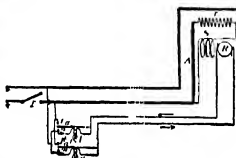
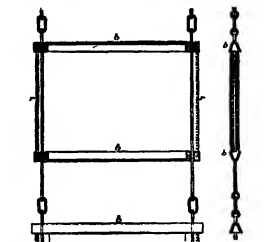
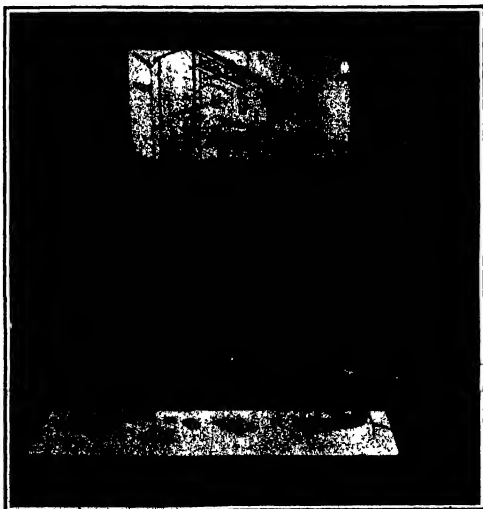

Fig. 2.—Electric wiring for automatic projector.
Fig. 3.—Front and side views of chains carrying slide holders.
Fig. 4.—A lecture illustrated by the automatic projector, controlled by the lecturer himself.
Hitherto it has been necessary for a lecturer using lantern illustrations to employ an assistant to operate the lantern and insert each slide at the proper moment. M. Mouille has invented an automatic lantern (Fig. 1) which dispenses with the services of the assistant. The ingenious mechanism which inserts and removes the slides can be adapted to any projecting lantern and enables the lecturer, by pressing an electric button on the platform, to show any picture at will. The invention will be especially serviceable to teachers, as is shown by Fig. 4. The picture can be thrown on the white wall of the class room, and if a powerful source of light is employed it will not be necessary to darken the room to an extent sufficient to prevent the taking of notes or the use of the blackboard.
the tension of the spring *r* (Fig. 2). The drum is driven by a small electric motor, by means of a thin gear wheel, and, as it rotates, the slides are brought successively opposite the projecting lens. In this operation the flexible conveyor carrying the slides takes up from a box behind the drum and delivered to a receiving box beneath the lantern.
The motor is shunt wound, so that it can be reversed by reversing the current in the armature coils. In this way a slide which has already passed the lens can be brought back and projected again. If desired, the electrical connections by means of which the apparatus is controlled are shown diagrammatically in Fig. 2. Beneath the lecture table is a switch *L*, the closure of which sends a current through the electric arc *A* of the projecting lantern, and also through the field coils *S* of the motor, which are connected in parallel with the circuit containing the arc and its rheostat. On the table are two double contact keys *a* and *a'*. The upper contacts of these keys, *1* and *1'*, are connected with one wire of the general circuit, the lower contacts, *2* and *2'*, are connected with the other wire, and the fixed ends of the keys are connected, respectively, with the two brushes of the commutator attached to the rotor or armature *R* of the electric motor. Hence, when neither key is depressed, both brushes are in connection with the same main wire, and no current flows
In Fig. 1, which shows a face view of the machine, the main shaft is shown at 4 and mounted upon it is the main rubber head, provided with the rollers 5 which form the rabbet and molding immediately in front of the cutter head is a table 6 on which the work is supported and a pair of guides 7 for holding the work in position. The auxiliary cutter is mounted on a shaft 8. It consists of a pair of rollers 9 and 10 provided with a pair of blades 11. Fig. 2 shows a side view of the auxiliary cutter moved to its operative position so that it clears the work (4) supported on the table 6. The shaft of the auxiliary cutter is provided with a yoke and roller 12 by which it may be moved axially so as to bring the cutter into engagement with the
Pictured in the accompanying engraving is an improved coupling of the type adapted for connecting the shafting ends of two reversible shafts. Briefly the device consists of a key and a sleeve which serves to hold the key in place while a second locking key serves to retain the sleeve in position over the two shafts. As shown most clearly in the actual view Fig. 3 and in Fig. 4, a keyway is cut in each shaft, and a pit or recess is formed at the end of the keyway. The shafts are turned so that the two key ways are in alignment and then a key of the form shown in Fig. 4, and indicated at 4, Fig. 2, is fitted into the keyway. The key is provided with lugs at the end adapted to fit into the pits of the keyways. Before bringing the shafts together, a sleeve 5 is fitted over one of them. This sleeve, as shown in the cross-sectional view, Fig. 1, is formed with a keyway adapted to fit over the key 4 when it is moved over the abutting ends of the shafts. To hold the sleeve in position, the key 5 is inserted into an exterior keyway in the sleeve 5 and is provided with a pair of lugs 6 which pass through the sleeve and into the two shafts. A screw 7 is used to hold the key 5 to the sleeve 5. In this manner the two shafts are rigidly connected. Owing to the large
An inventor has recently struck upon the simple idea of using coins to weigh letters, so that the value of the coin will represent the value of the stamp that must be applied to the letter. A simple beam scale is used provided at one end with a clip for holding the letter and at the other end with a clip for holding the coins. If the scale is to be used for first-class mail the rates for which are two cents an ounce the fulcrum of the scale is so placed that a letter weighing an ounce would be just counterbalanced by two one-cent coins in the other clip. As shown in our illustration the scale beam is made of sheet metal bent to channel form with the ends turned over and terminating in knifed edges pivoted on which the letter and coin clips are suspended. A detail of one of these clips is shown in Fig. 2. It is made of a single piece of metal bent to form two jaws which may be roughened or crimped to provide a better gripping surface. At the upper end of the clip are two ears bent upward and provided with apertures to receive the pivots of the scale beam. A half-shaped handle serves as a fulcrum for the scale. In order to adjust the scale accurately a screw hole is provided on the under side of the scale beam. The scale beam is formed of two ears which pass through a slot in the pole and are bent back upon it to hold it in place as indicated in Fig. 3. The poles may be definitely adjusted to bring the scale to a correct balance. The inventor of this ingenious letter scale is Mr. Willis J. Fink, of Elk Point, South Dakota.
The principal objection to a tobacco pipe as every smoker knows lies in the fact that nicotine accumulates to such an extent as to partially close the stem and detached particles of the disintegrating drug are apt to be drawn into the mouth. The saliva is also apt to flow into the stem and collect there. To obviate these disagreeable features of the ordinary stem, many inventions have been made designed to trap the saliva and the nicotine. The accompanying engraving illustrates one of the latest inventions along this line. The pipe bowl is provided with two openings one above the other and these are adapted to communicate with two channels in the stem. The stem is provided with a core piece in which the channels are formed. The core is indicated in the cross-sectional view Fig. 2 and is shown in full in the large view Fig. 1. The upper channel extends the full length of the core and through this the smoke is drawn. Near the lower end of the stem the core is provided with several ducts extending downwardly and rearwardly to the lower channel of the core so that any nicotine or solid and liquid particles drawn up with the smoke will be trapped by the ducts and will soon